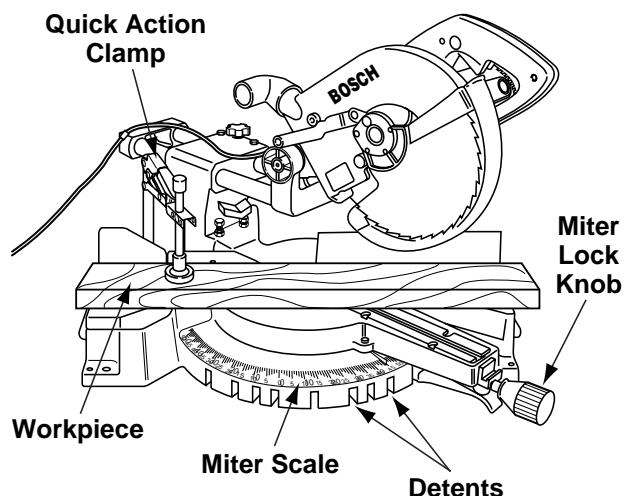

Figure 29. Miter Cut
1. Loosen miter lock knob. Lift miter detent trigger and move the saw to the desired angle, using either the detents or the miter scale. Tighten miter lock knob (Figure 29).